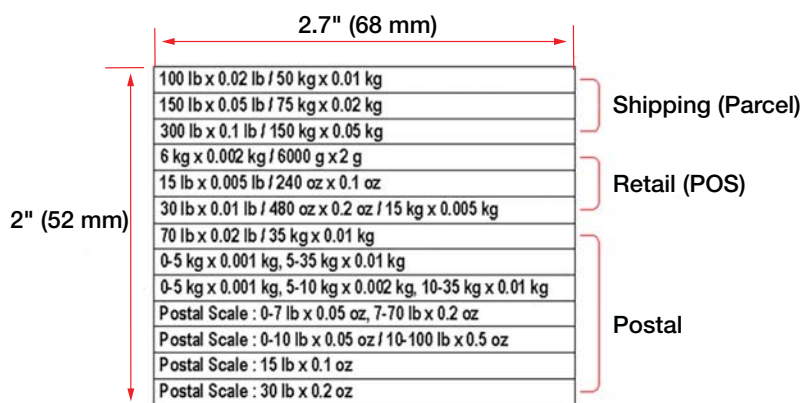

Figure 1-5. Capacity Labels
**Note** Additional capacity labels are provided with each unit. If using a scale in the applicable lb/oz mode or multi-range kg mode, install the correct label over the existing capacity markings. See Figure 1-5 on page 5.